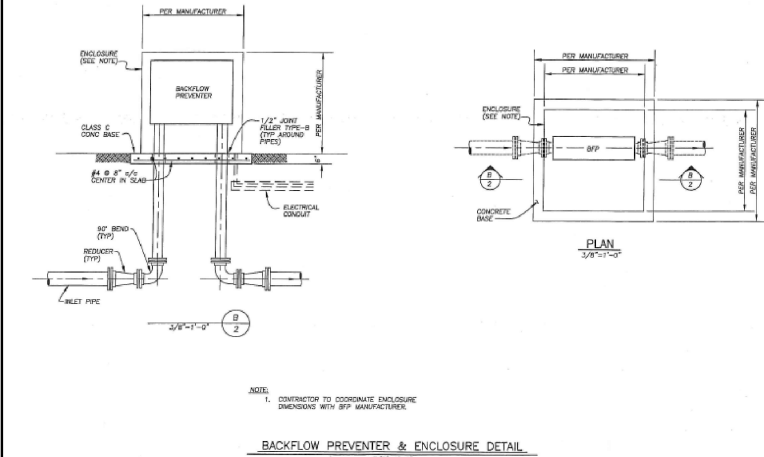

FIG 2.16.1
- NEW HEATED ENCLOSURES SHALL BE EITHER A BOX STYLE, AS MANUFACTURED BY HYDROCOWL, INC. OR HOT-BOX OR A HOT-ROK STYLE AS MANUFACTURED BY HOT-BOX. BOTH STYLES SHALL FULLY ENCLOSE THE BACKFLOW PREVENTER ASSEMBLY, VALVES, HANDWHEELS AND STEMS, AND BE CONSTRUCTED ON AN ODOT CLASS QC CONCRETE PAD, AS RECOMMENDED BY THE MANUFACTURER. THE HEATING AND ELECTRICAL REQUIREMENTS SHALL COMPLY WITH MANUFACTURER'S RECOMMENDATIONS. SEE FIGURE 2.16.1.